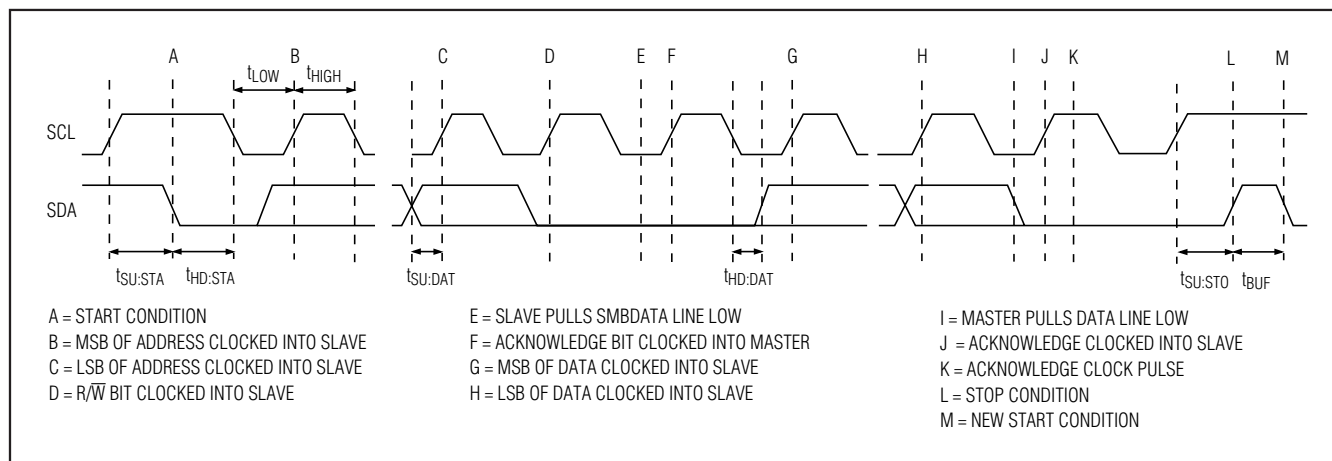

Figure 3. I2C Write Timing Diagram
The master initiates a transmission with a START condition (S), a high-to-low transition on SDA with SCL high. The master terminates a transmission with a STOP condition (P), a low-to-high transition on SDA while SCL is high (Figure 3). The STOP condition frees the bus and places all devices in F/S mode (Figure 1). Use a repeated START condition (Sr) in place of a STOP condition to leave the bus active and in its current timing mode.